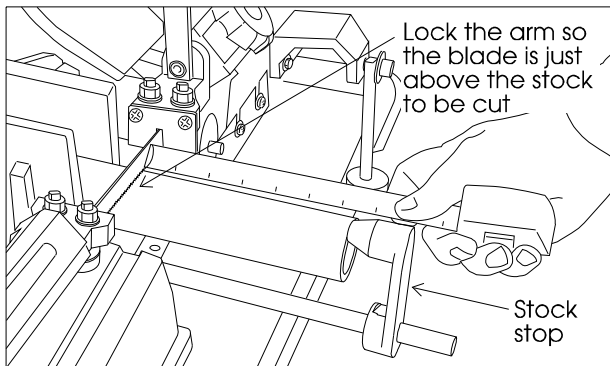

Figure 6: Using the stock stop
8. Measure the distance between the end of the workpiece and the blade to verify that you have set the stock stop at the correct distance. (See Figure 6.)